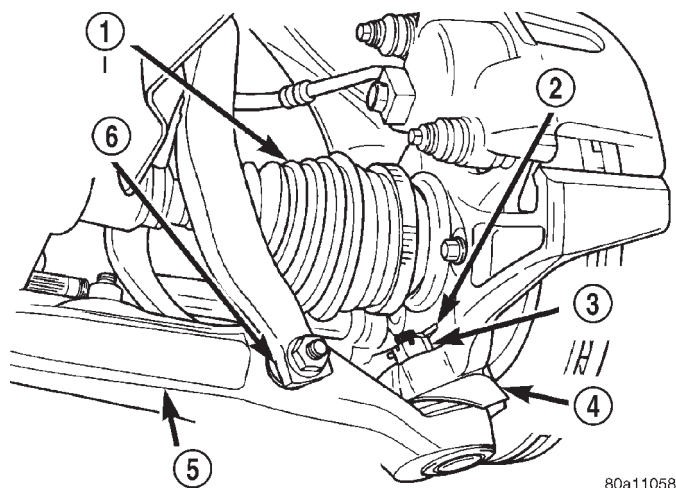

Fig. 34 Lower Ball Joint Attachment To Steering Knuckle
(11) Remove cotter pin and castle nut (Fig. 34) from the stud of the lower ball joint.